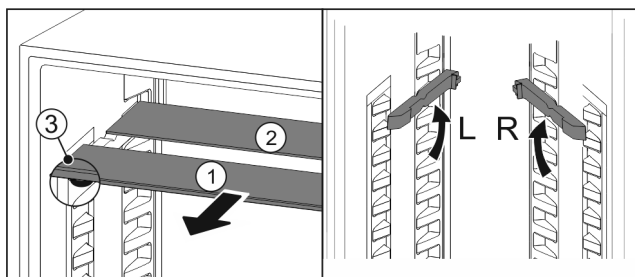

Fig. 98
- Pull the glass panels out Fig. 98 (1) from the front, one at a time.
- The glass panel Fig. 98 (1) and trim strip are at the front.
- The stops Fig. 98 (3) point down.